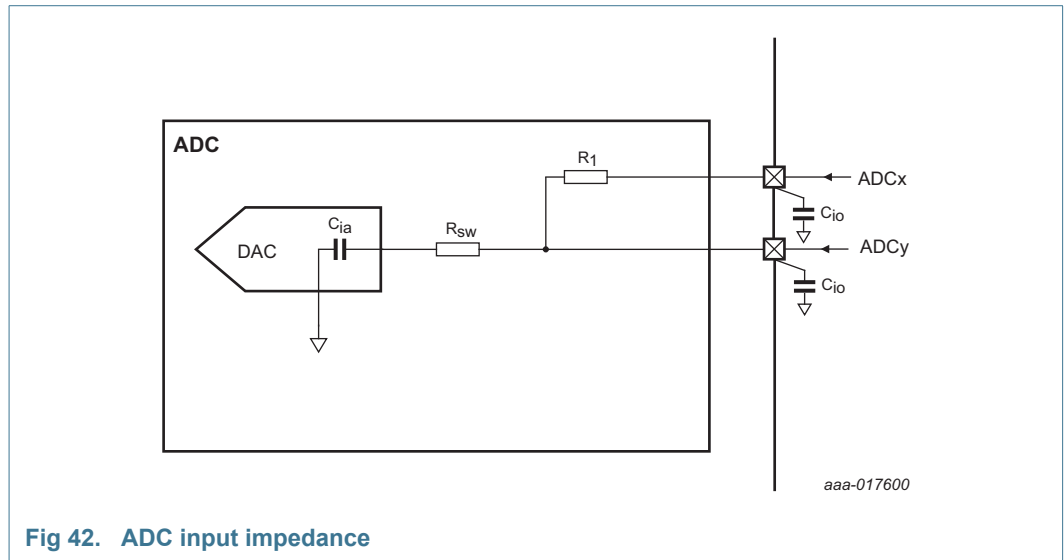

Fig 42. ADC input impedance
- [10] Input impedance Z_i is inversely proportional to the sampling frequency and the total input capacity including C_{ia} and C_{io} : $Z_i \propto 1 / (f_s \times C_i)$. See Table 20 for C_{io} . See Figure 42.
Figure 42 shows the ADC input impedance. In this figure: